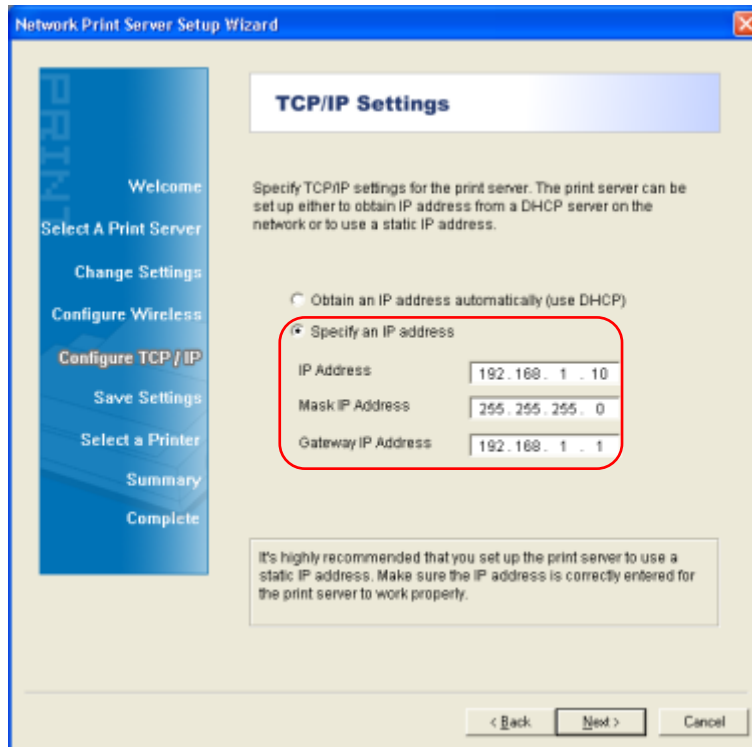

Figure 3-6
- Select “**Yes**” if you want to change the settings. The TL-PS110P is produced with no password. Click **Next** and then appears “**TCP/IP Settings**” screen as shown in Figure 3-6. Proceed with Step 7.
6. On “**TCP/IP Settings**” page shown in Figure 3-6, check the “**Specify an IP address**” radio button, and then fill in the following parameters.